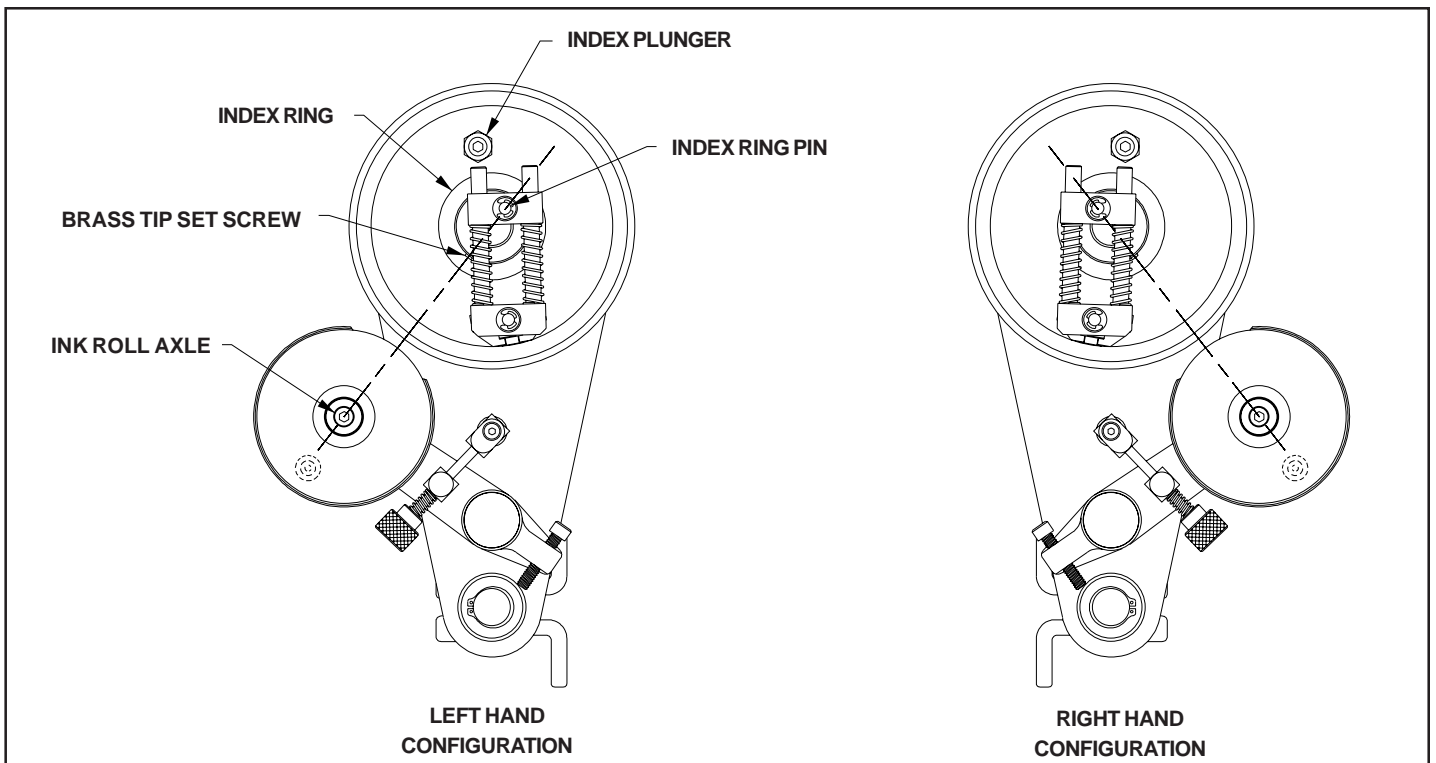

FIGURE 49
- 6- Rotate the Index Ring in a clockwise direction until it stops turning. Next, turn the Index Ring in the counter-clockwise direction as necessary until the Brass Tip Set Screw is pointing directly at the Ink Roller Axle as shown in Figure 49.